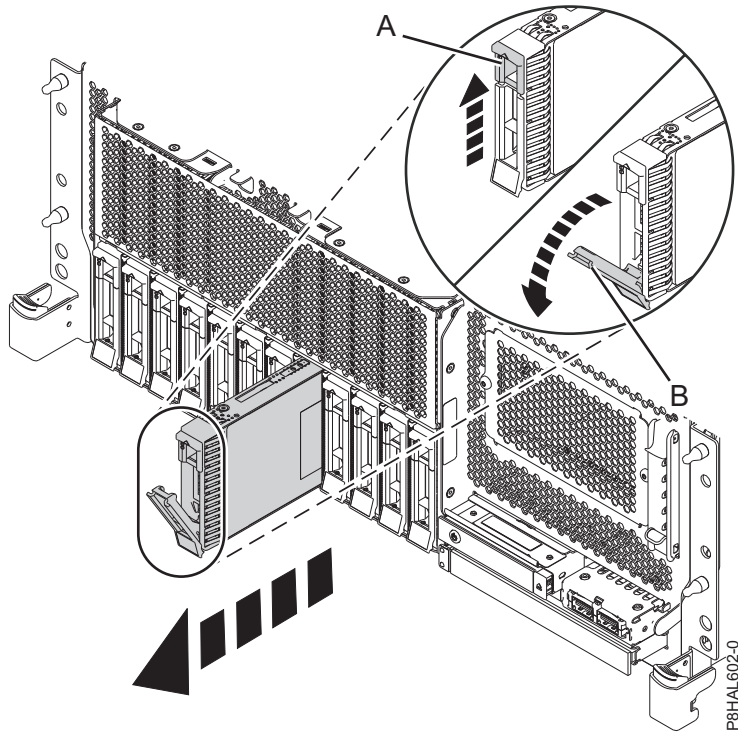

Figure 57. Removing a disk drive from a rack-mounted base function system
3. Unlock the drive handle (**B**) by pressing the handle latch (**A**) and pulling it out toward you, as shown in Figure 57 on page 63, Figure 58 on page 63, Figure 59 on page 64, and Figure 60 on page 65. If the handle is not all the way out, the solid-state drive cannot slide out of the system.